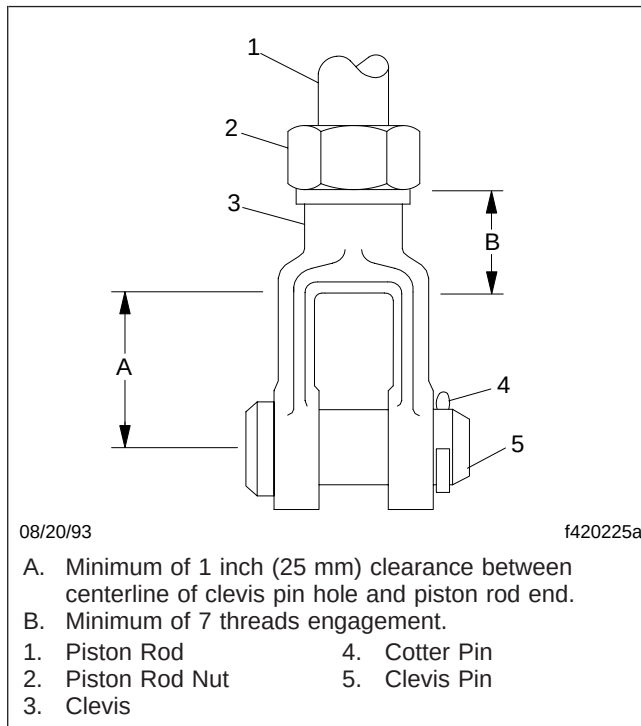

Fig. 2, Piston Rod Engagement With the Clevis
3. Observe the piston rod engagement with the clevis. Engagement of at least 7 threads is required; there should be 1 inch (25 mm) clearance from the centerline of the clevis pin hole to the end of the piston rod. See Fig. 2. Adjust if needed.